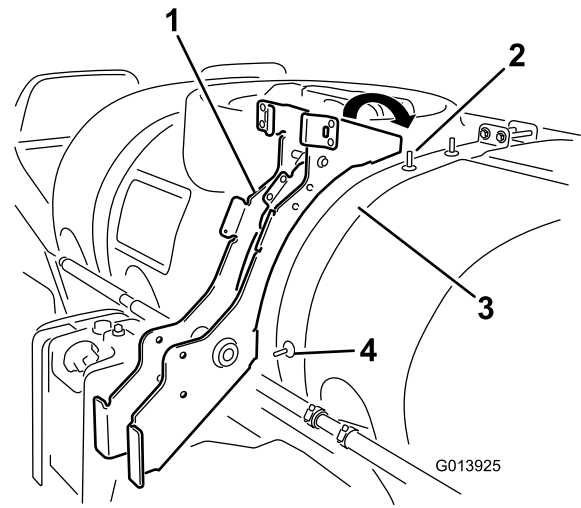

Figure 9
3. Install the frame over the tank strap aligning the lower hole in the frame with the exposed bolt in the side of the tank strap and the upper hole with the upper bolt in the tank strap as shown in Figure 9.